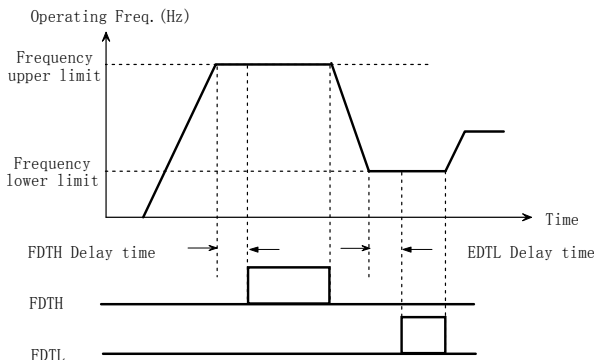

Fig. 5-3-10 FDTH/FDTL diagram
- ◆ Usually ,this Function is valid to avoid load wobbling and signal instability when several motors switch between commercial frequency and conversion frequency, as shown in Fig. 5-3-10.